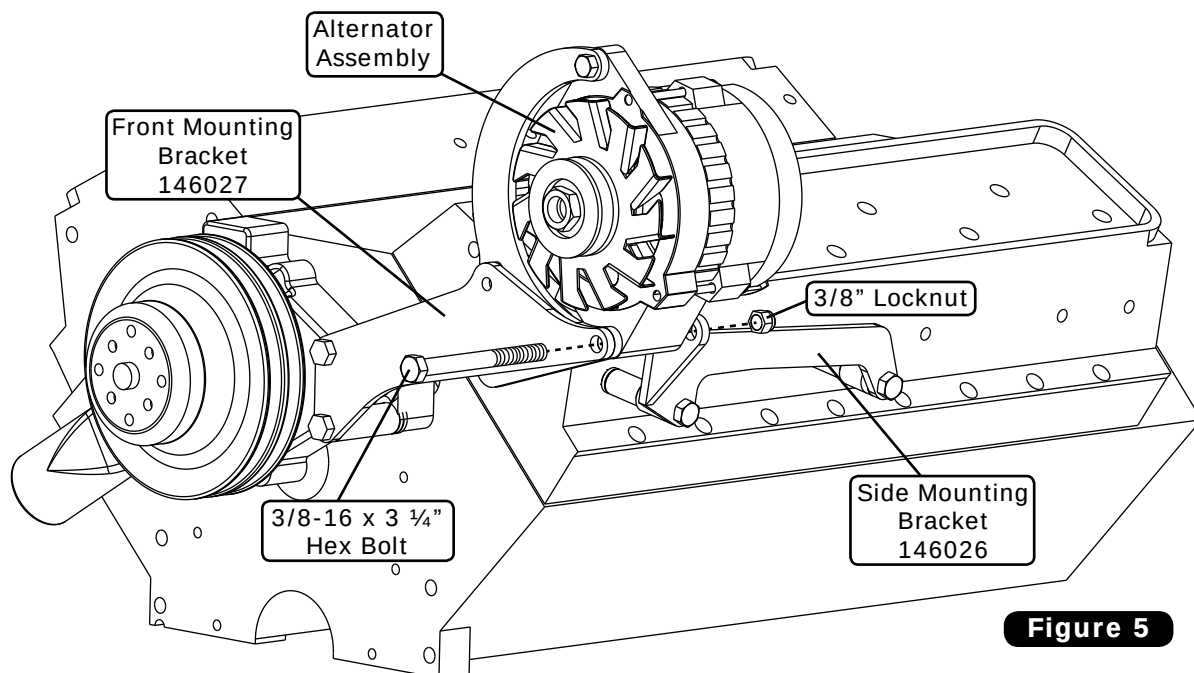

Figure 5
1. Install the alternator assembly using a 3/8-16 x 4" hex bolt and a 3/8" locknut as shown in Figure 5, below.